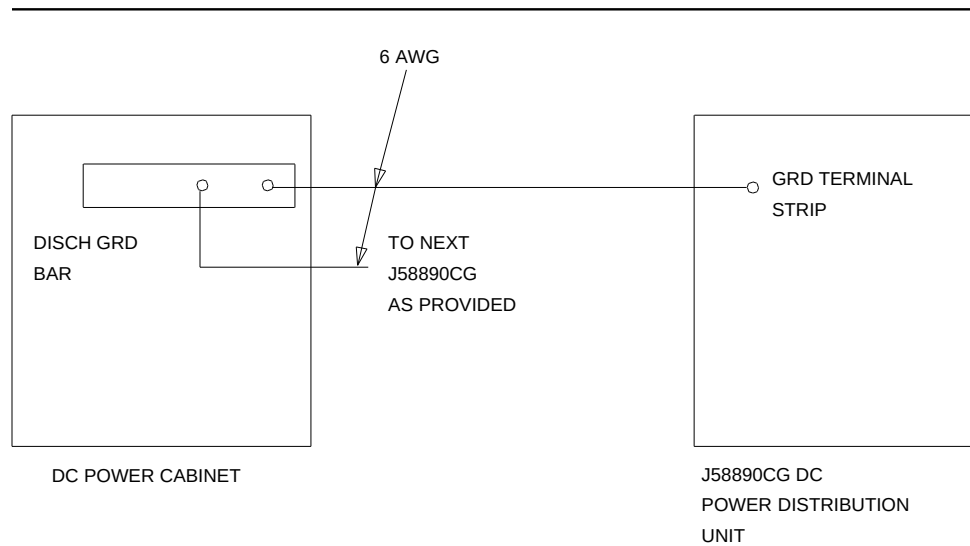

Figure 4-21. J58890CG DC Power Distribution Unit Grounding
1. At the DC Power Cabinet, connect 6 AWG cable to the **DISCH GRD** bar. Route the cable to the DC Power Distribution Unit. Connect the cable to the GRD Terminal Block in the DC Power Distribution Unit (see Figure 4-21).